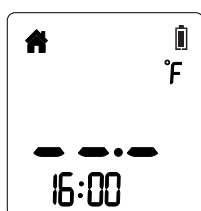

Figure 5
1. Rotate the probe to the appropriate position, you can take the object temperature after hearing beep. (see figure 5)